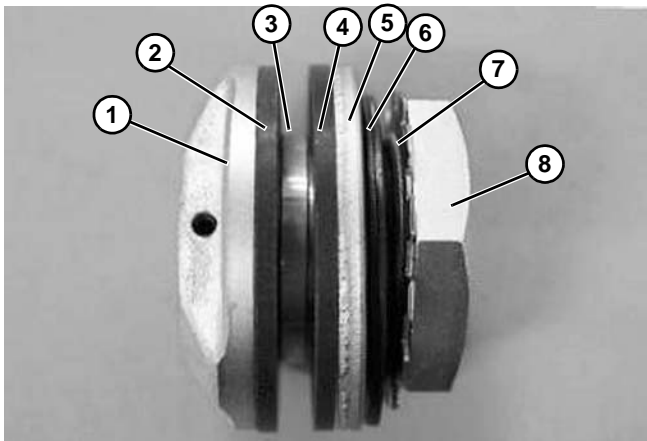

Figure 104
- Prevent damage to the products on the conveyor (See **Figure 104**.)